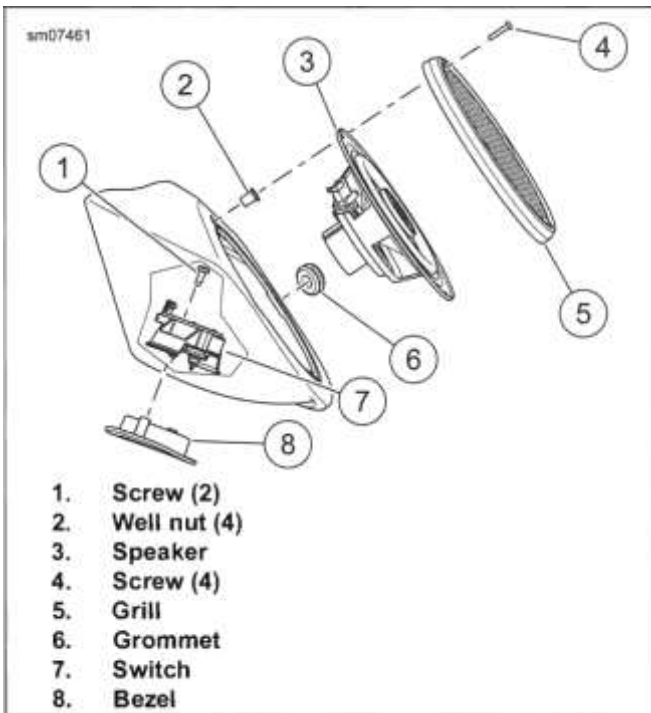

Figure 8-84. Rear Speaker (typical)
1. See Figure 8-84. Remove screws (4).
2. Remove speaker (3) and grille (5) from enclosure.
2. See Figure 8-84. Install speaker (3) and grille (5) to enclosure.
3. Install screws (4). Tighten carefully.
- 3. See Figure 8-84. Right speaker:
- a. Install switch bezel (8).
- b. Install harness and switch (7) assembly with wires nearest to wall of speaker enclosure.
- c. Install screws (1) securing switch. Tighten.
- 1. See Figure 8-84. Remove four screws (4).
- 2. Remove speaker (3) and grille (5) from enclosure. Disconnect terminals.
- a. Remove well nut (2) to access switch screw (1).
- b. Remove screws securing switch (7).
5. Install cable strap on harness next to inside of grommet (6) to act as strain relief.
*Over-tightening screws (4) can cause well nuts to pull through mounting holes.*